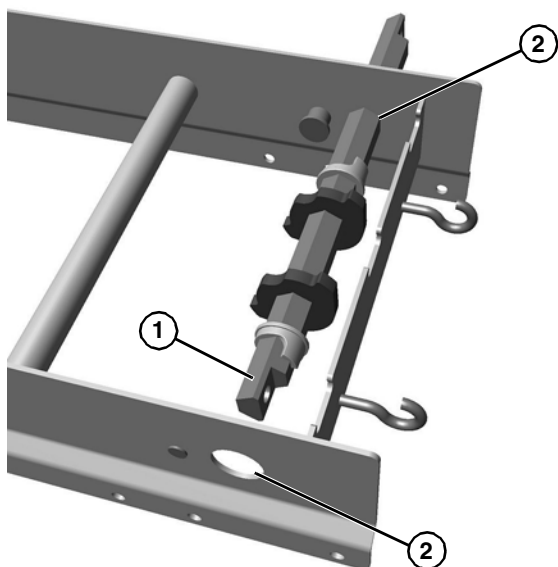

Figure 15
- Place hex shaft assembly (**Figure 15, item 1**) through the conveyor frame tip up holes (**Figure 15, item 2**) and center with conveyor.